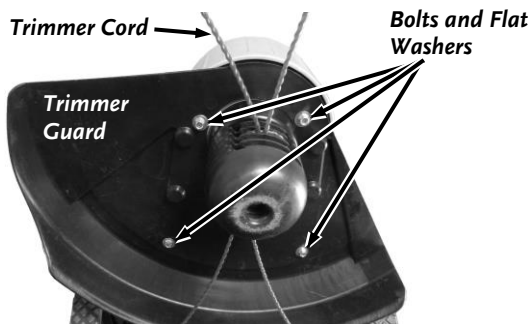

Figure 36
3. Remove the four Trimmer Guard Bolts and Flat Washers with a 3/8" Wrench. Remove the Trimmer Guard (Figure 36).
21. Position the Trimmer Guard and secure with the four Bolts and Flat Washers using the 3/8" Wrench (**Figure 36**).